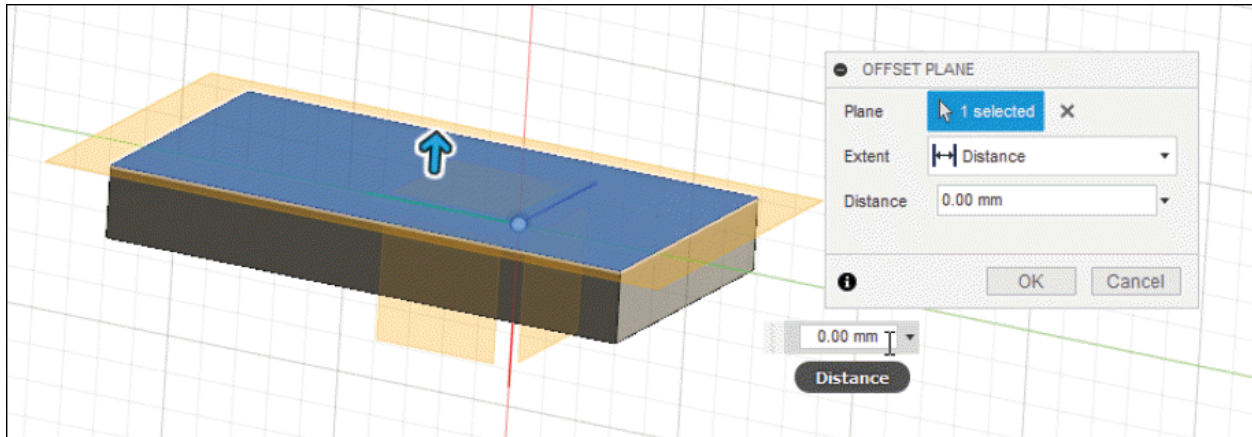

Figure-71. Selection of plane for creating offset plane
- Plane selection is active by default. Click on the plane/face of model to be used as reference for offset plane; refer to Figure-71. The preview for offset plane will be displayed.